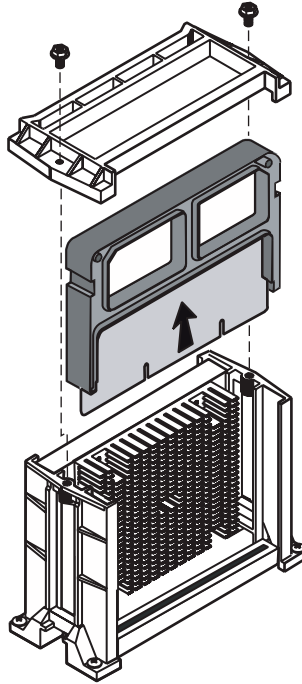

Figure 12: Removing the Terminator Card
3. Wearing an anti-static wrist strap grounded to the system chassis, remove the Terminator Card from the system board. See Figure 12.